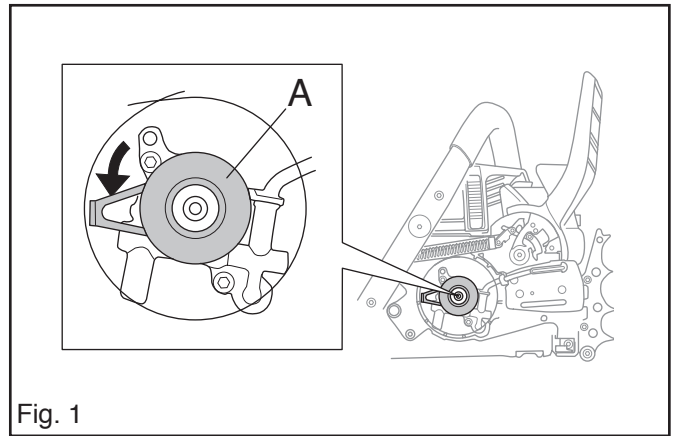

Fig. 1
- Bar guide plate, clutch drum and the centrifugal clutch. See page 26, fig. 1 and 2.
3. Dismantle the oil pump gear (A). See fig. 1.
- The metering unit, A in fig. 1.